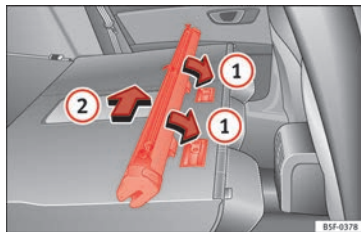

Fig. 173 Assembling the net partition in the rear seat backrests.
- Place the net casing in the rail slots in the direction of the arrows » Fig. 173 ①.
- Push the casing towards the left side of the vehicle in the direction of arrow » Fig. 173 ② and as far as it will go.
» Fig. 173 ②.
» Fig. 173 ①.